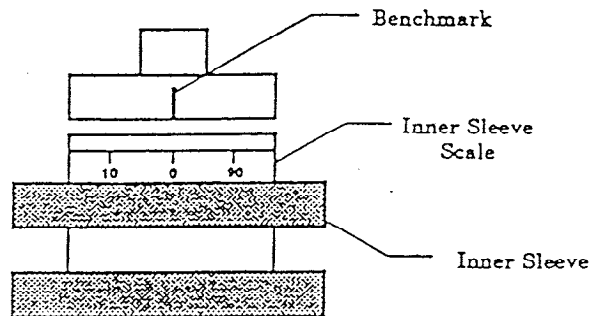

Fig.10 Tool positioning knob
B. Hold the tool positioning knob to keep it from turning and adjust the inner sleeve until zero or one of the reference numbers on the scale aligns to the benchmark located on the support block. See Figure 10. Repeat on the other positioning knob.
2. Slide the arbor into the spindle. Align the "O" marks on both until they are in line with each other as shown in Figure 10 and tighten the draw bolt.